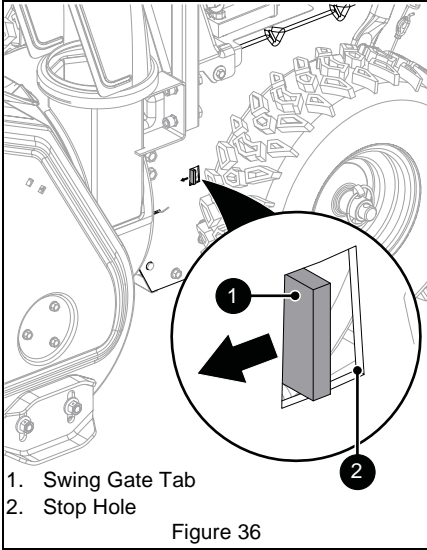

Figure 36
4. With traction clutch disengaged, check that swing gate tab touches the front edge of stop hole. See Figure 36.